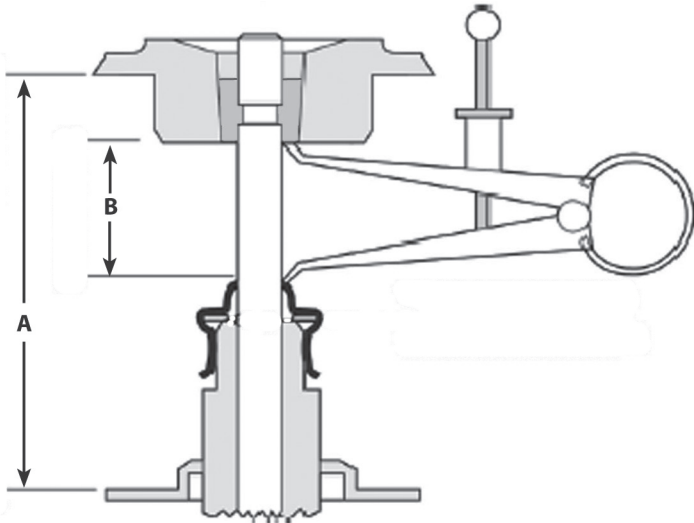

Fig. 1
- d. While holding the valve firmly against the seat in the closed position, measure the installed spring height (distance between lower valve spring seating surface and bottom of top collar. **See Figure 1, below.** Record this measurement in the table below.
- e. Measure distance between top collar keepers and top of the valve guide. **See Figure 1, Dimension B.** Distance must be at least .050" greater than the valve lift of the cam to be used.